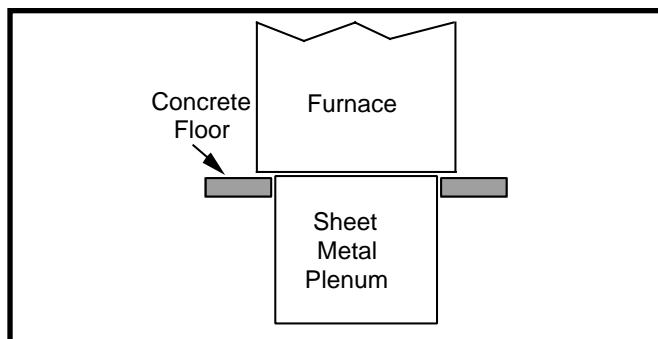

Figure 14. Furnace on a Concrete Slab
2. Position the plenum and the furnace as shown in Figure 14.